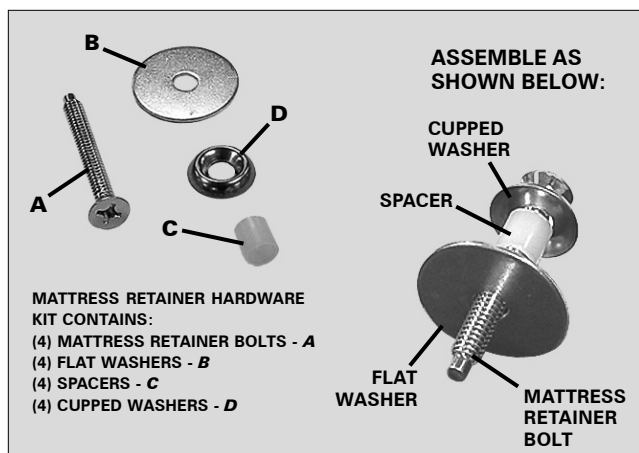

FIGURE 4: Mattress retainer hardware.
- a. Install (1) cupped washer, (1) spacer and (1) flat washer on (4) mattress retainer bolts (FIGURE 4).